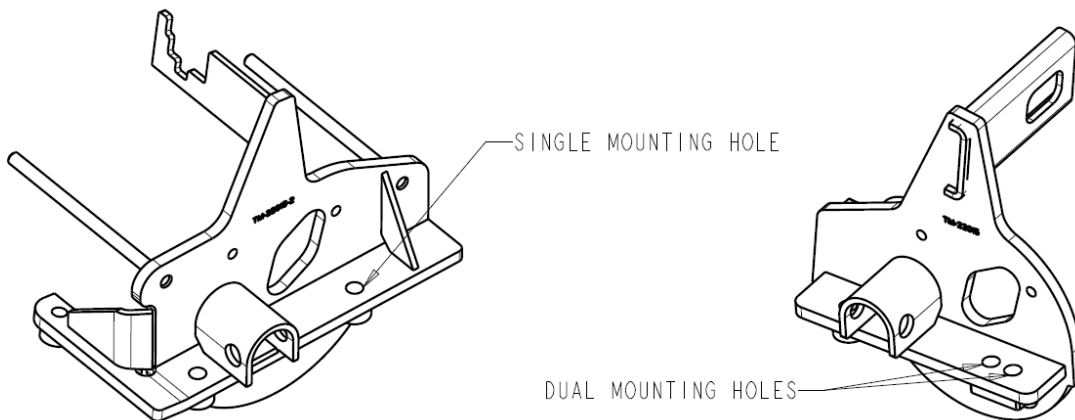

Figure 10. Mounting Hole Configuration
- 7.8.7 If bracket only has a single mounting hole, see Figure 10, air actuator must be scrapped regardless of condition.